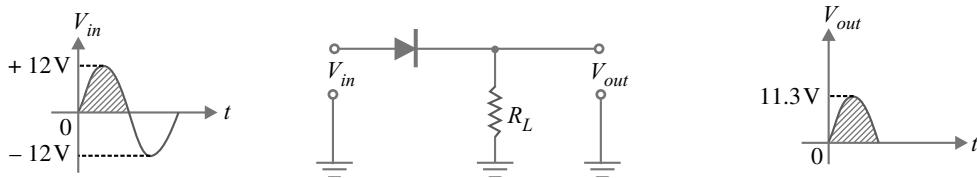

Fig. 16.35
**Example 16.12.** For the negative series clipper shown in Fig. 16.35, what is the peak output voltage from the circuit?